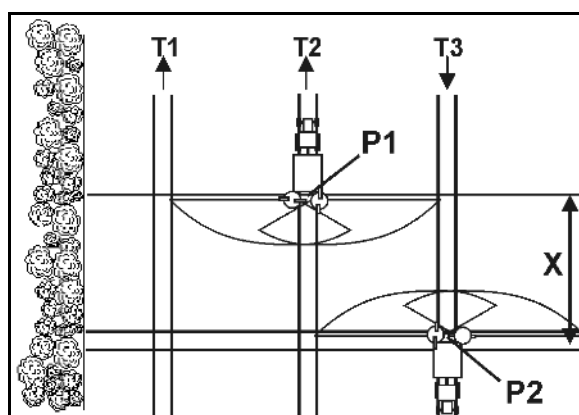

Fig. 103
- Open the slide gate after entering the tramline at point **P1** (Fig. 103), when the spreader discs are at distance X from the tramline of the headland.
- Close the slide gate before leaving the tramline at point **P2** (Fig. 103), when the spreader discs are located at the level of the first tramline of the headland.